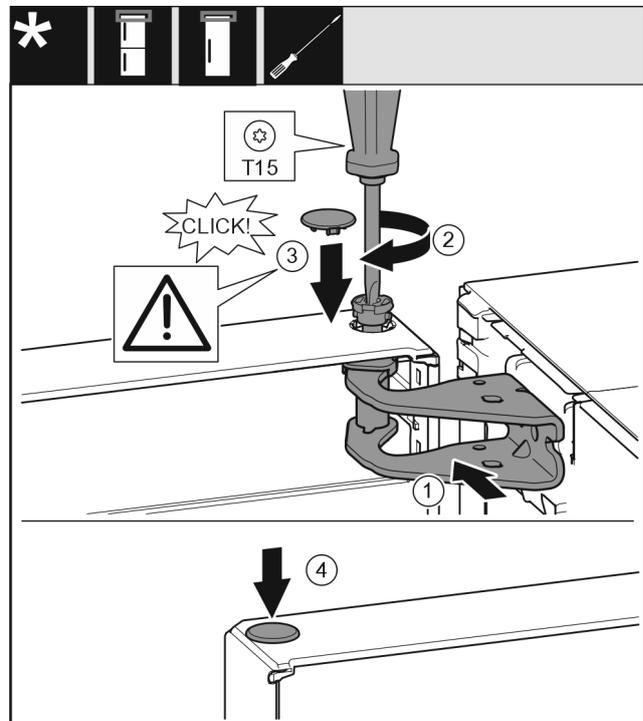

Fig. 20
- ▶ Align the top of the door with opening in the bearing bracket. Fig. 20 (1)
- ▶ Insert the bolt and tighten with a T15 screwdriver. Fig. 20 (2)
- ▶ Fit the protective cover to protect the door: Insert the protective cover and check that it is flush to the door. If not, insert the bolt fully. *Fig. 20 (3)*
- ▶ Insert the plugs. *Fig. 20 (4)*